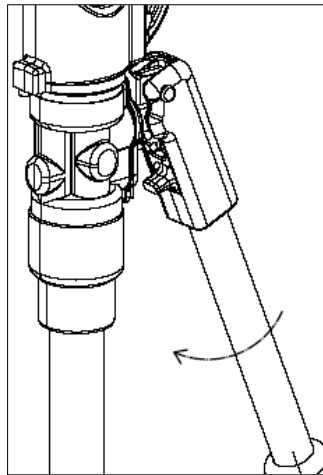

Figure 2 – Release Pressure
- 5.2.1 Release the hydraulic fluid pressure and retract the piston before opening the tool head. To release the pressure; pull out the moving handle and rotate it clockwise. Push down the moving handle (see Figure 2). Once the piston returns to its starting position the product is ready to operate.
- 5.2.7 Turn the moving handle clockwise and press down the release lever by pushing down the moving handle. The tool will return to its starting position (see Figure 2).